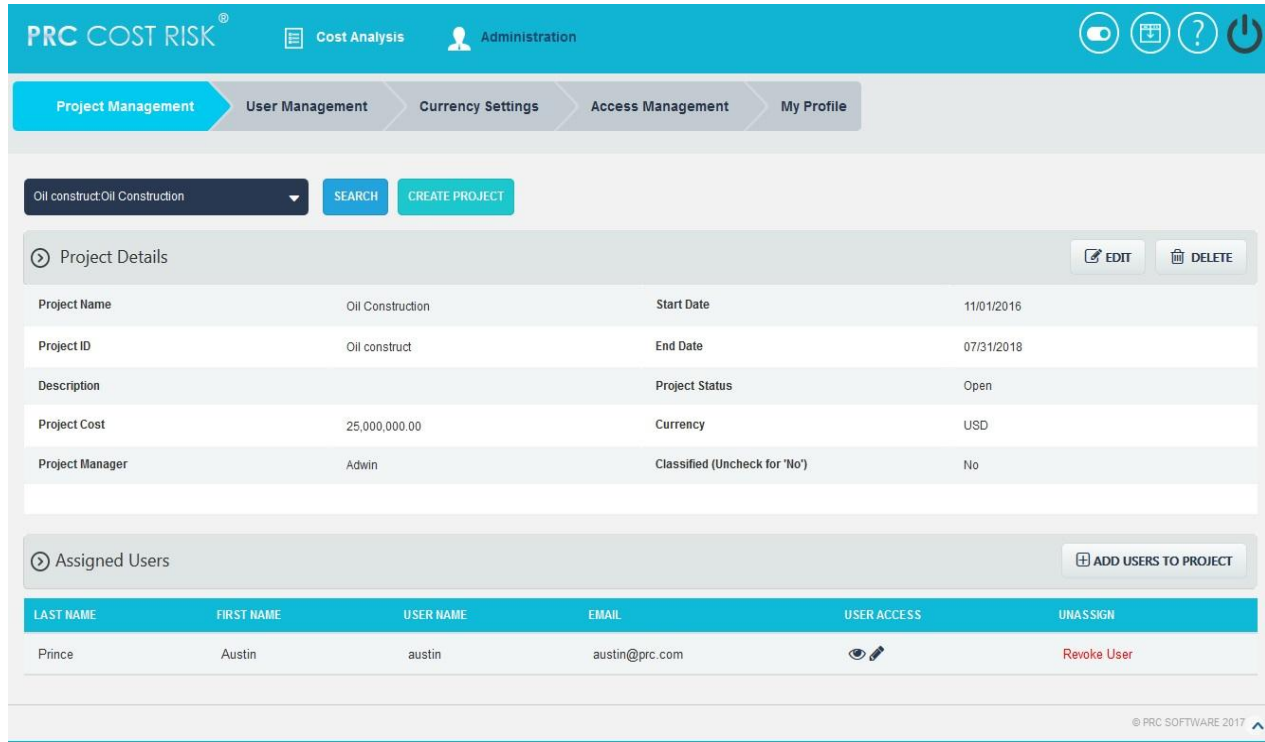

Figure 1.11
2. Click the **CREATE PROJECT** button. (Figure 1.11)
2. Click the **EDIT** button. (Figure 1.11)
2. Select the required project from **SELECT PROJECT** dropdown. (Figure 1.11)
3. Click the **ADD USERS TO PROJECT** button. (Figure 1.11)
In order to view or modify the accesses of a user assigned to project, click **VIEW/EDIT** icon (Figure 1.11) under the Assigned Users section.
3. Click the **VIEW/EDIT** icon corresponding to a user to view or edit the accesses to the selected project. (Figure 1.11)
3. Click **Revoke User** link corresponding to the user to be revoked. (Figure 1.11)
3. Click the **DELETE** button. (Figure 1.11)
2. Click the **SEARCH** button. (Figure 1.11)